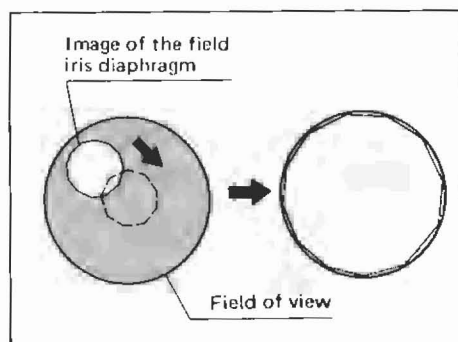

Fig. 20
- 4) Open the diaphragm until the small ring of the diaphragm inscribes the field of view. If the polygonal ring is not concentric with the field of view, repeat the centering procedure mentioned above. (Fig. 20)